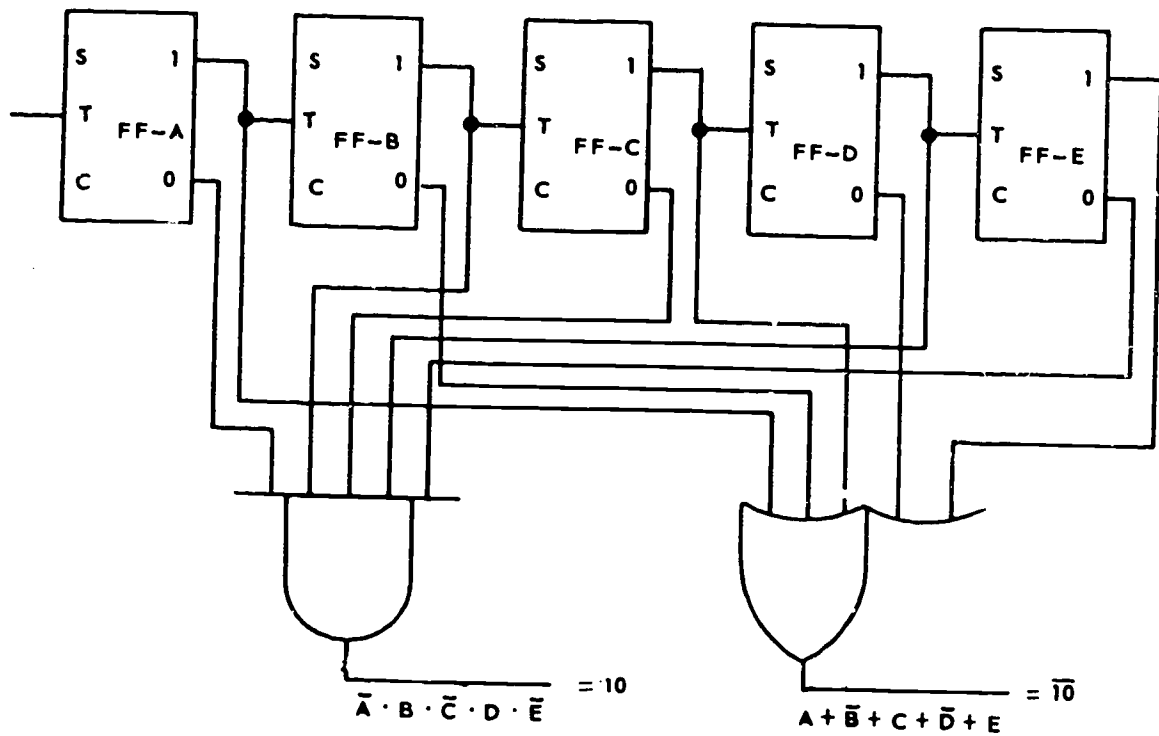

Figure 1-9. Count detection of 10 or $\bar{10}$.
Figure 1-9 shows the same serial counter with an AND-gate and an OR-gate. The AND-gate produces an output when the count of 10 is present in the counter; the OR-gate produces an output at all counts except the count of 10. The output from the AND-gate would most likely be used as an enabling gate for some other digital circuit. The most likely use for an OR-gate output would be as an inhibit gate to inhibit some other circuit action at the count of 10.
2. On figure 1-9, when will the OR-gate produce a high?